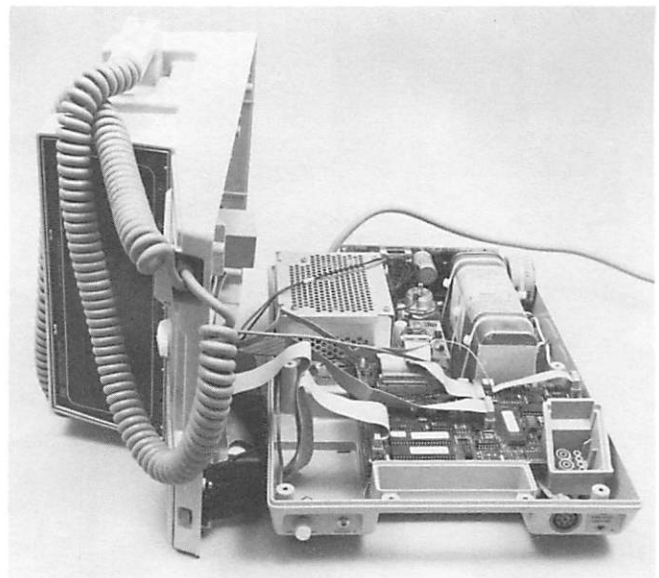

Figure 4-2.
5. Lift the top half of the case from the bottom half. Place the top section on its side to the left of the bottom section. See Figure 4-2.